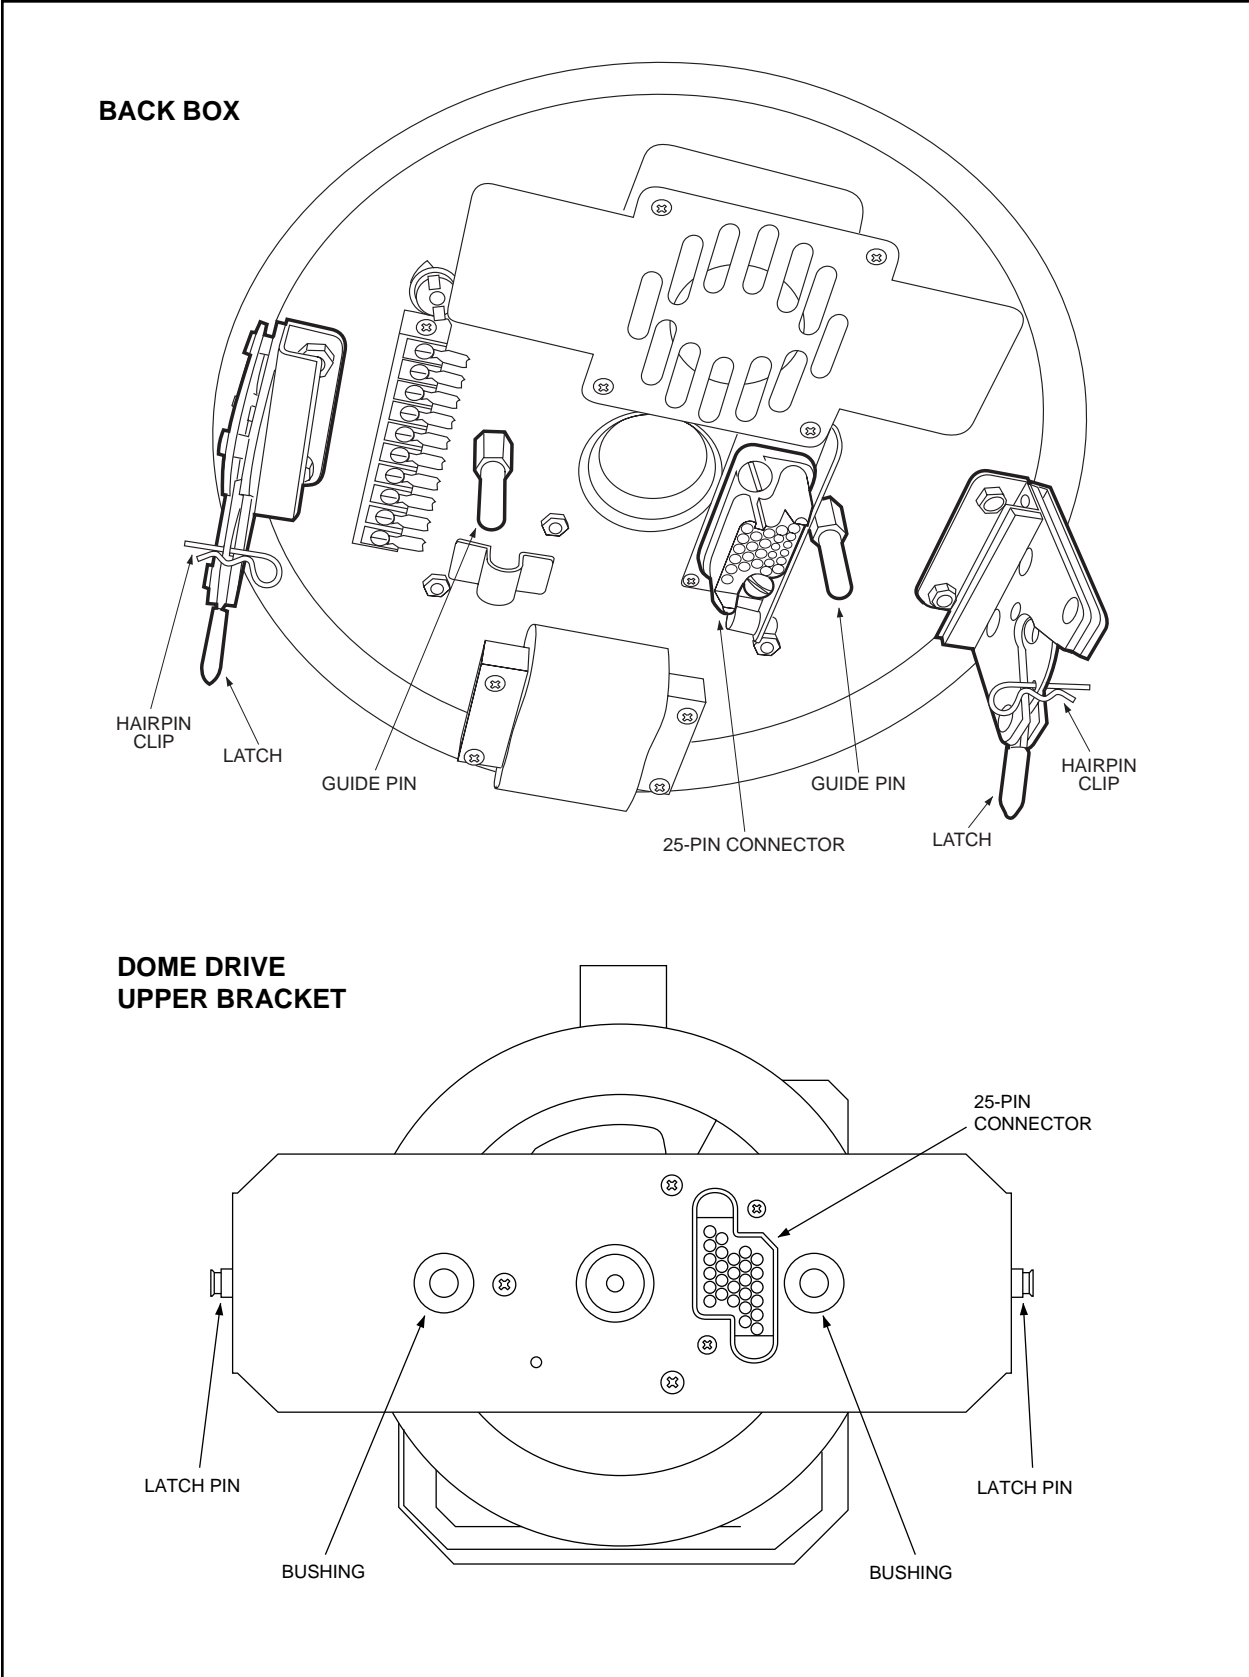

Figure 2. Back Box and Dome Drive Components
5. Remove the hairpin clips from the two latches inside the back box (refer to Figure 2) and open the latches.
- a. Refer to Figure 2 and line up the upper bracket on the dome drive so that: